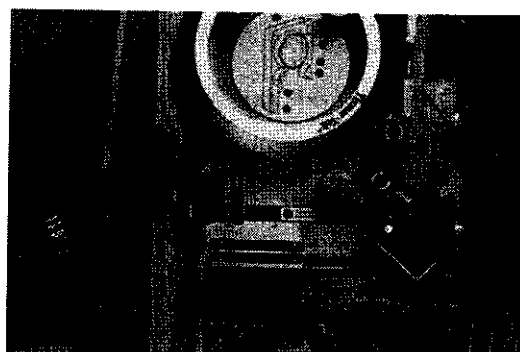

Figure 2-P
4. Thread the tip of the film outside of roller "1" and through guide "2" (Figure 2-P).